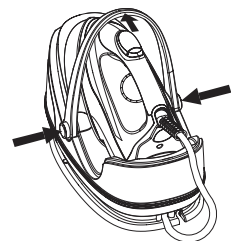

FIG. 9
Step 1 - Press down the two handle buttons simultaneously and then lay the handle down. (Fig. 9)